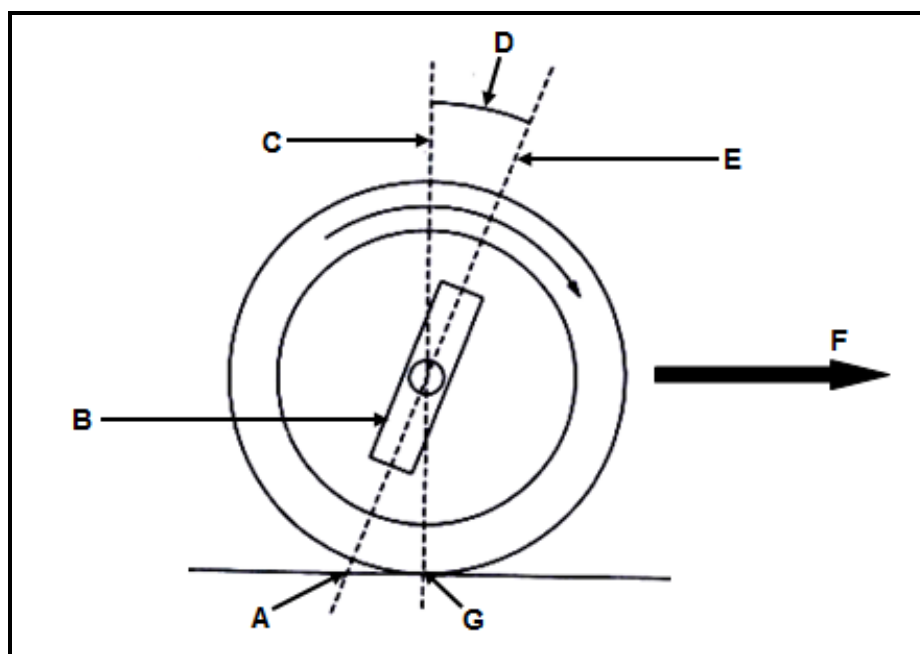

FIGURE 10.2
- 10.2 FIGURE 10.2 below shows a wheel alignment angle. Answer the questions that follow.
- 10.2.1 Identify the wheel alignment drawing in FIGURE 10.2. (2)
- 10.2.3 Define the *wheel alignment angle*, as indicated in FIGURE 10.2. (3)